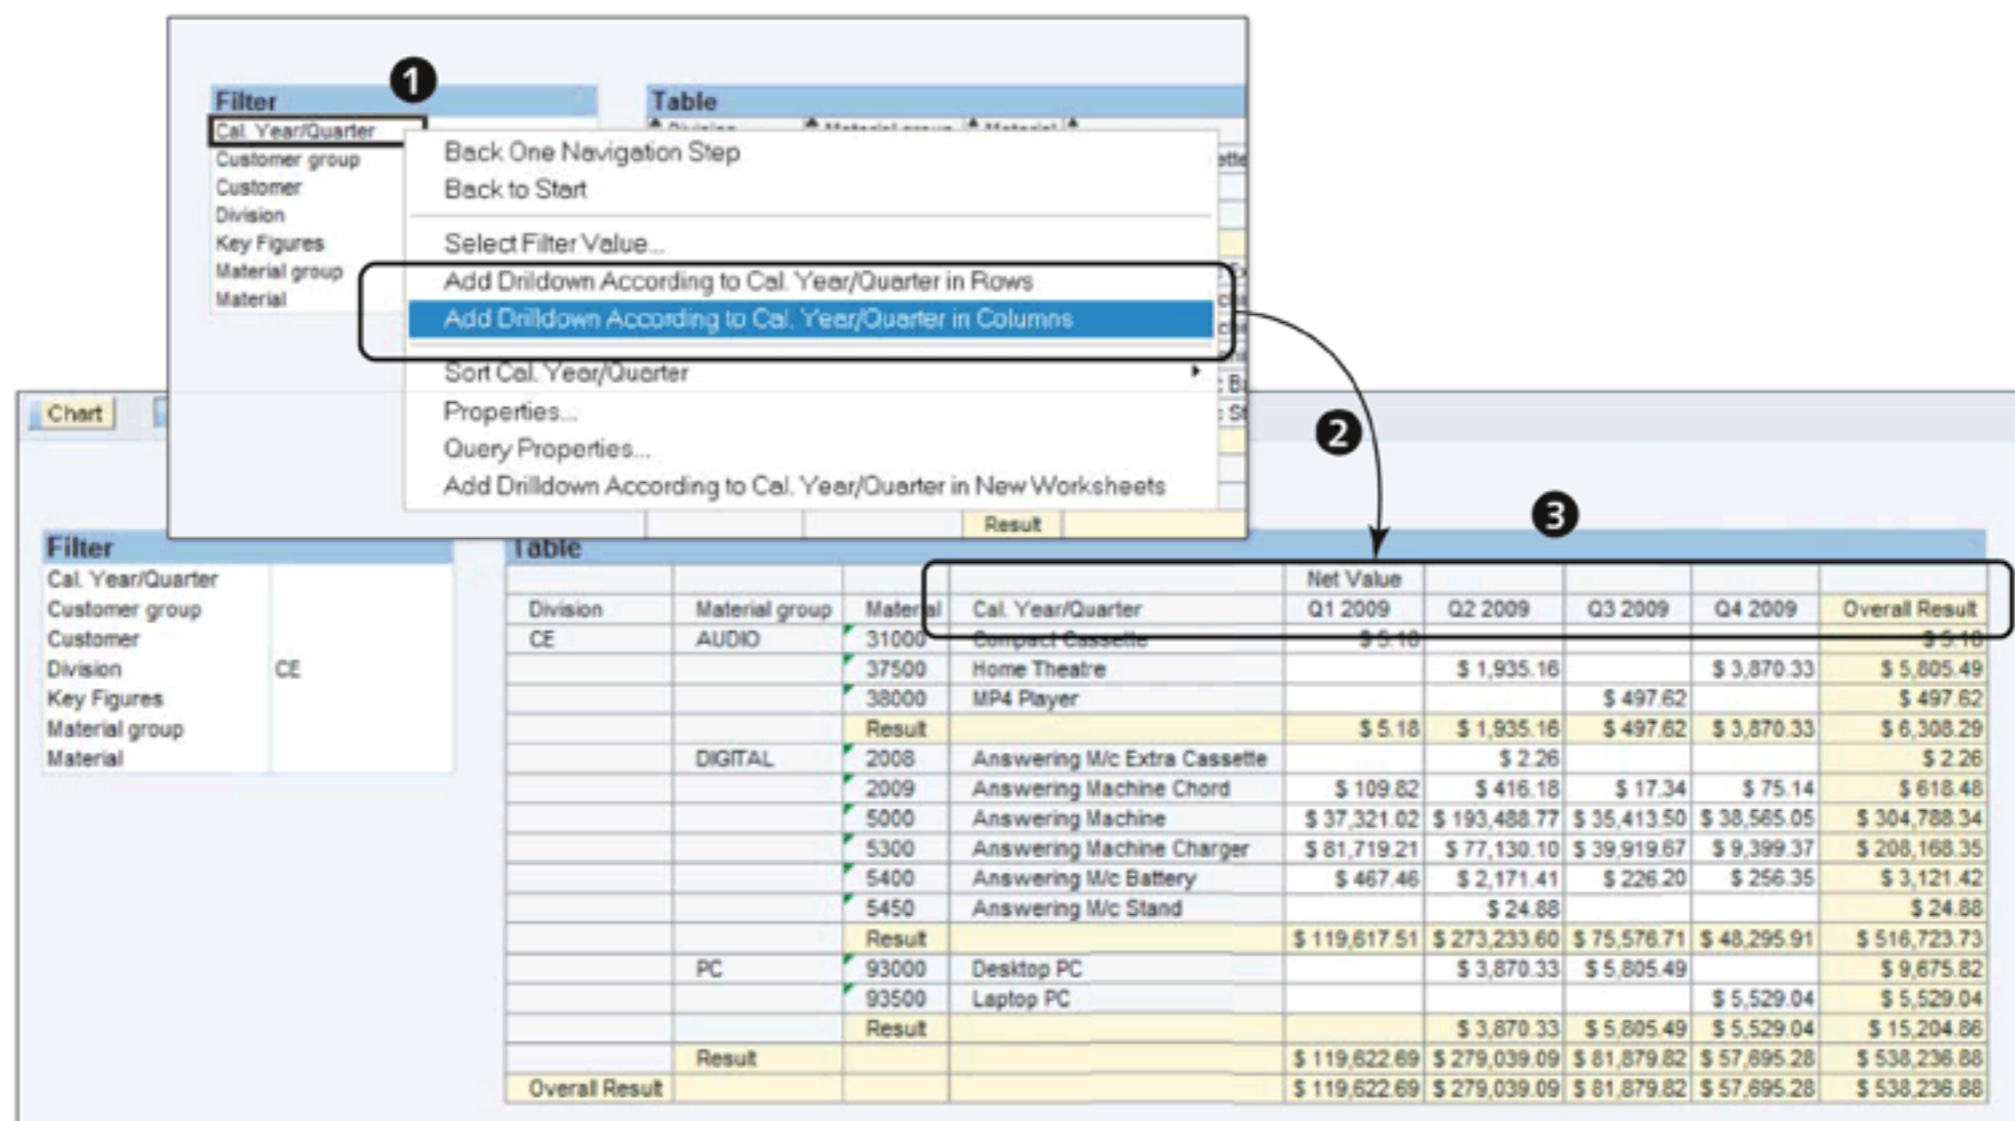

Figure 10.14 Drilldown Options
For the example shown in Figure 10.14, if you want to see the sales values split by CAL. YEAR/QUARTER (1), you can drill down by this characteristic in the columns. To perform this navigation, select ADD DRILLDOWN ACCORDING TO CAL. YEAR/QUARTER IN COLUMNS from the context menu of the CAL. YEAR/QUARTER characteristic (2). As a result, the selected characteristic is added to the query, and the data is refreshed as the drilldown (3).